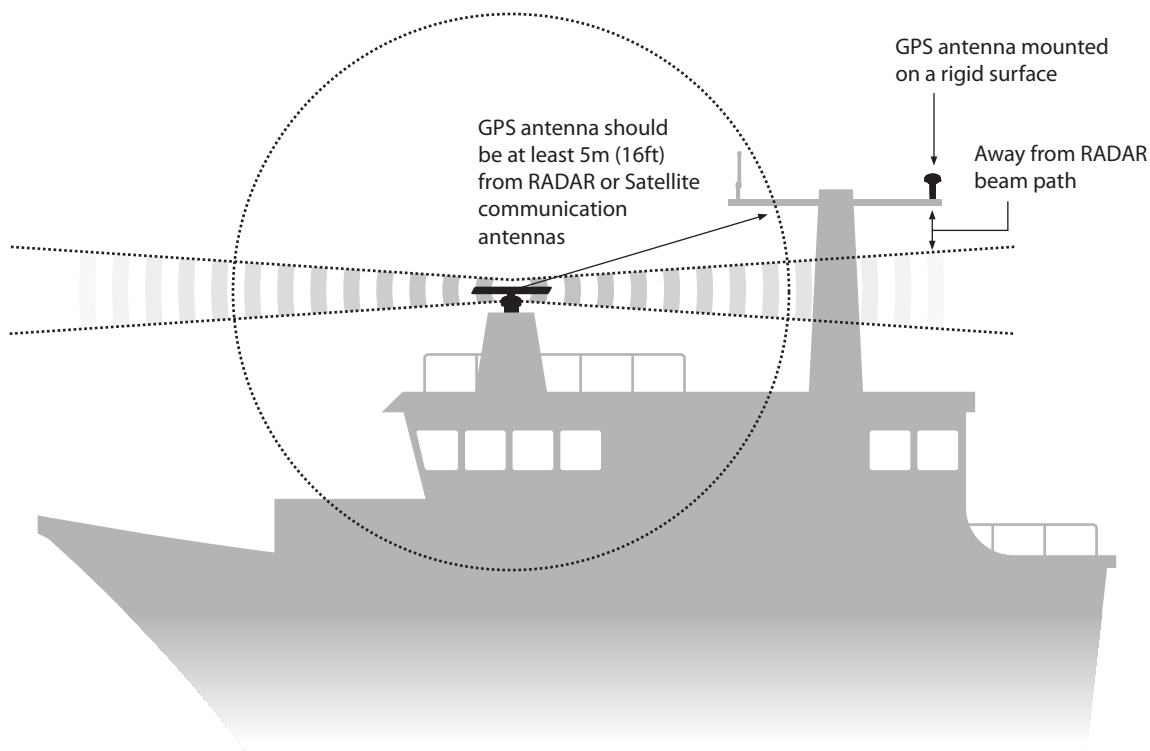

Figure 42 GPS antenna location
- The GPS antenna should be mounted as high as possible, however it is not recommend the antenna is mounted on a top of a high mast where the motion of the vessel will cause the antenna to swing and potentially reduce the accuracy of the GPS position. See Figure 42 for guidance.